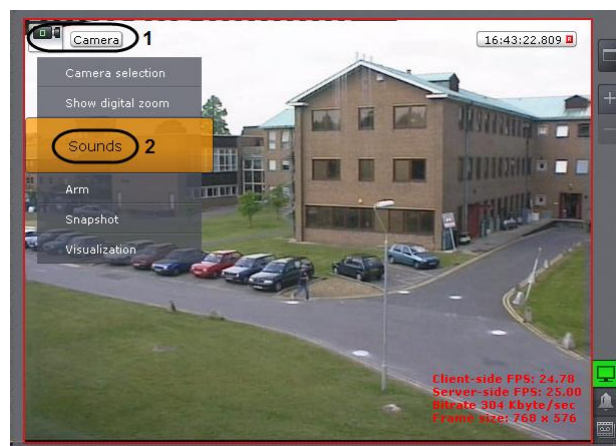

Fig. 7.4—1 Viewing tile context menu
2. Bring up the context menu in the viewing tile (Fig. 7.4—1, 1).
3. Select **Sound** (see Fig. 7.4—1, 2).